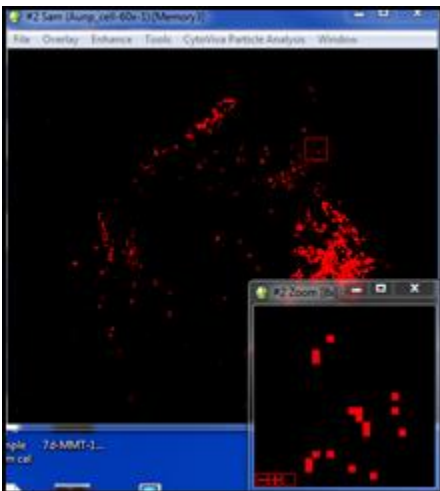
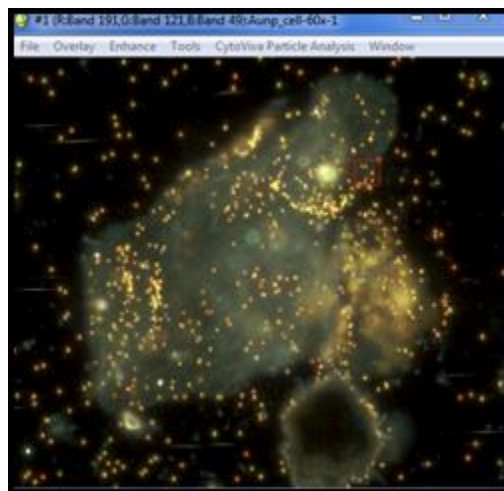
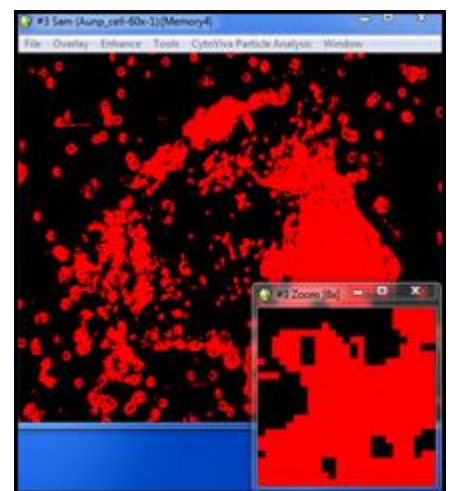

Figure 5.5a. Original Classification (#1 SAM) Image Obtained Using 0.1 Maximum Angle
Figure 5.5b. Original Image of the AuNPs in Cells
Figure 5.5c. New Classification (#2 SAM) Image Obtained Using Maximum Angle 0.3
- Then click on Load Band to New Display. The new classification (#2 SAM) images (Figure 5.5c) with the original image (Figure 5.5b) and the original classification (#1 SAM) Image at the side (Figure 5.5a). When you compare the first and second classification images, you will see that additional particles scattered about the cell are classified as AuNPs when the angle was set to a greater value. The correct value for the angle must be found by experimenting with different values.